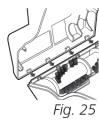

Fig. 25
- To reassemble, insert the tabs on the front edge of the bottom cover into the matching holes in the top half and tilt it back down until it clicks into place. (Fig. 25)